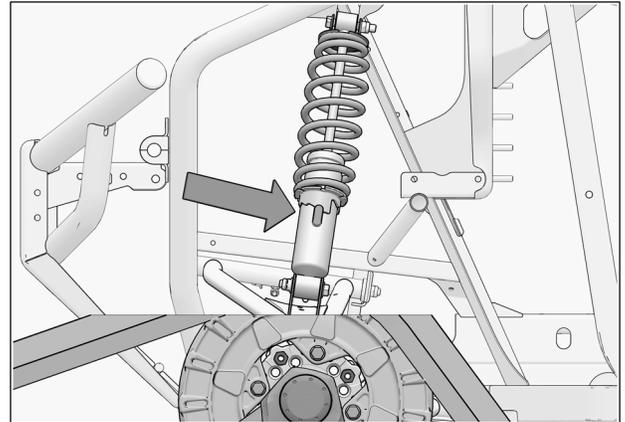

Fig. 22
- Verify the suspension settings. If the shock absorbers are adjustable, adjust them to the stiffest setting to allow for maximum clearance between the System and the vehicle's fenders. See Fig. 22